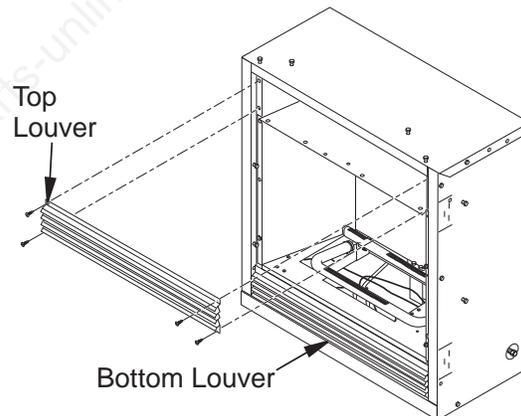

Figure 11 - Removing Top Louver and Opening Bottom Louver
2. Remove 4 screws from upper louver (see **Figure 11**). Save these screws.
4. Open lower louver door by swinging door down (see **Figure 11**).